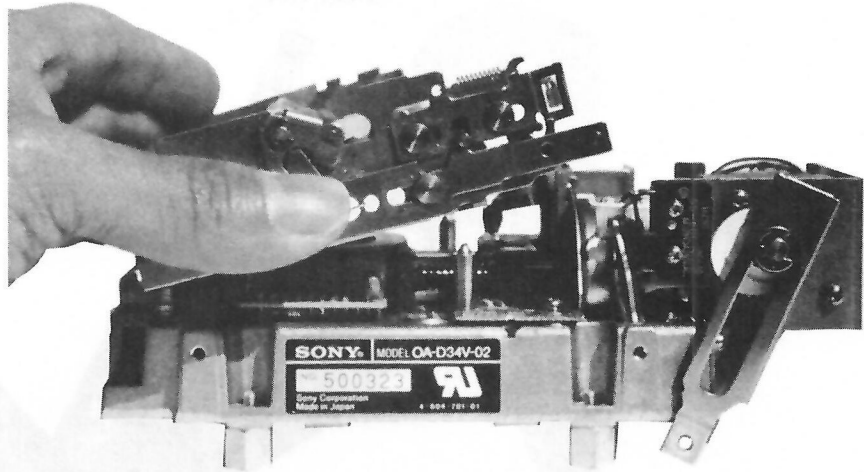

Figure 13-20 Carrier mechanism removal.
8. As shown in Figure 13-20, disengage the disk carrier mechanism from the chassis.